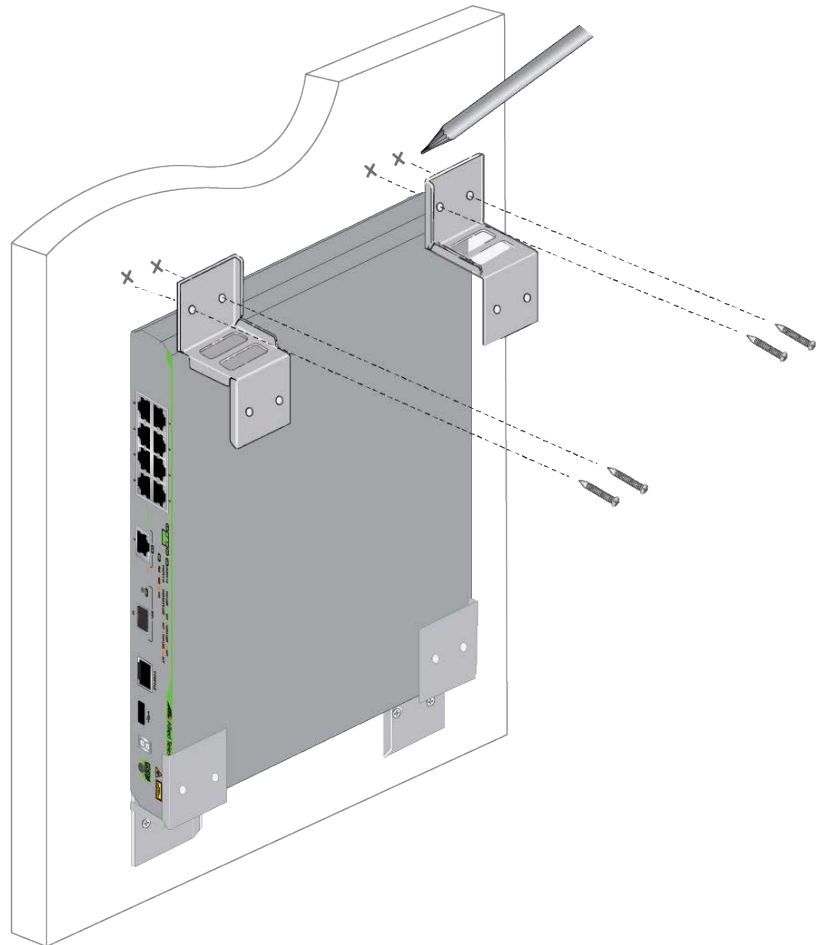

Figure 9. Marking the Screw Hole Locations for the Top Brackets
2. Position the two brackets on top of the switch and use a pencil to mark the wall with the locations of the four holes in the brackets. See Figure 9 as an example.